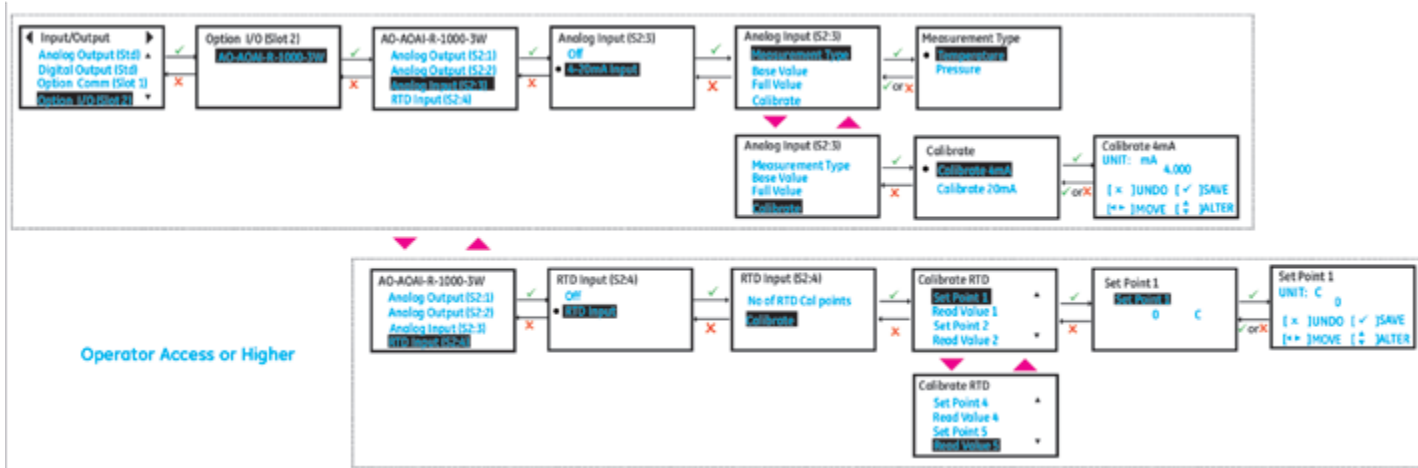

Figure 65: Setting up option I/O analog input/RTD input
4. If you are connecting an Analog Input, choose [4-20mA] option. Figure 65 below, shows the options available.
2. Use steps as in section “Log-in and Primary Pages” to navigate to the Input/Output settings page. Refer to Figure 65 above, highlight [Option I/O (Slot 2)] and press [ENTER].